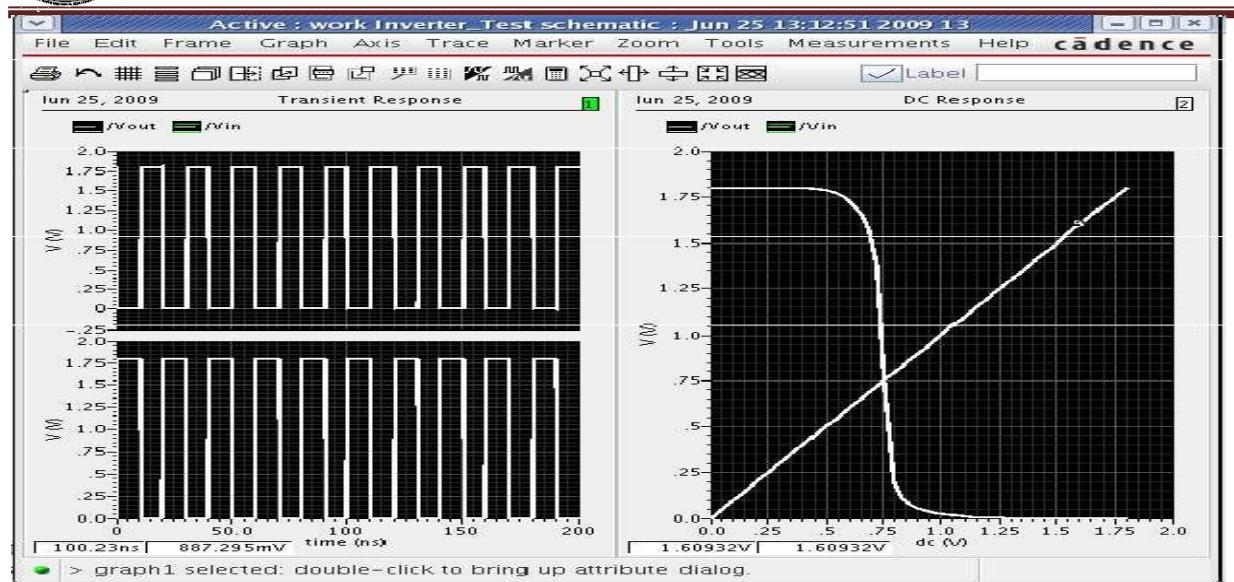

Figure 1.17: Transient and DC Response
2. When simulation finishes, the Transient, DC plots automatically will be popped up along with log file as shown in figure 1.17